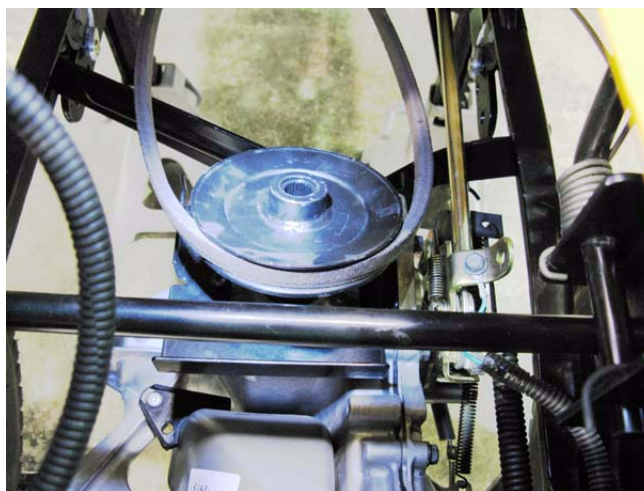

Figure 5.46
- 4c. Remove the pulley. The belt will clear the belt keepers on top of the transaxle as the pulley comes up. See Figure 5.46.